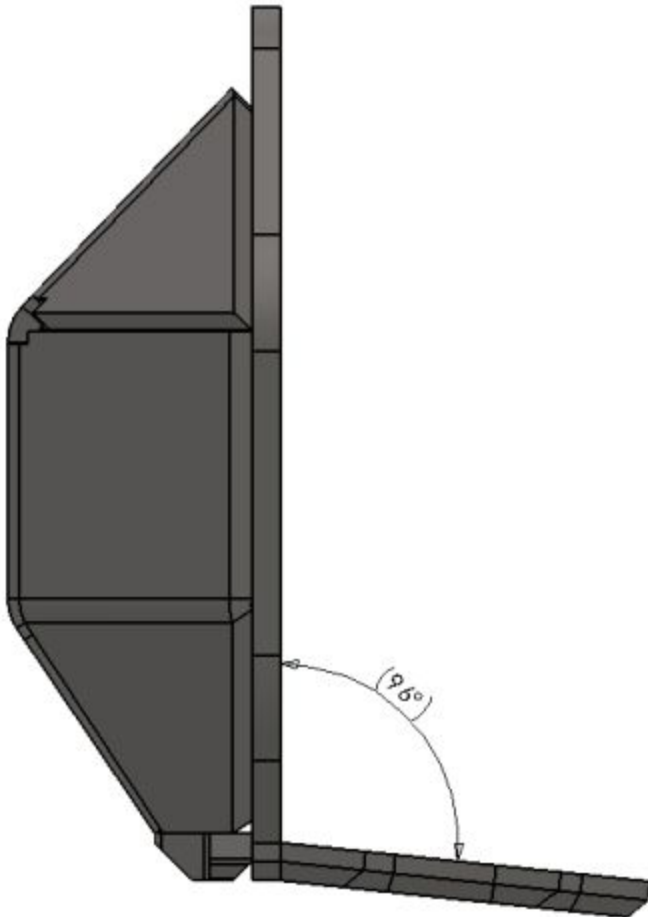

Fig 1.
- Mark the cut line. The cut needs to be made at 6 degrees past horizontal as shown in the figure (Fig 1.)